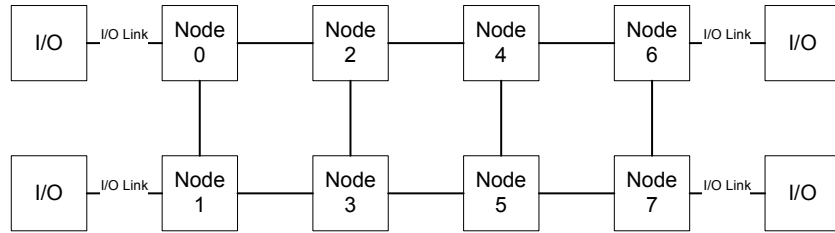
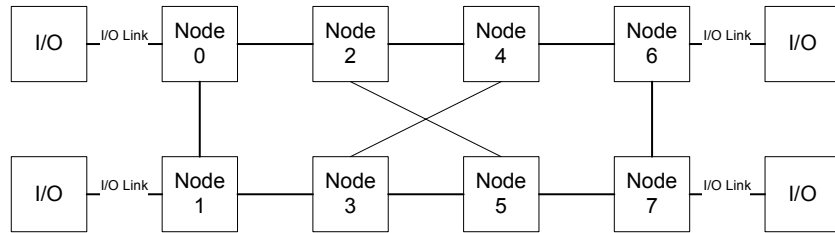

Figure 2. 8P Ladder Configuration
Figure 3. 8P Twisted Ladder Configuration
7. AMD recommends using different buffer allocations for inner and outer nodes when an eight processor system is implemented using either a ladder (Figure 2) or a twisted ladder (Figure 3)